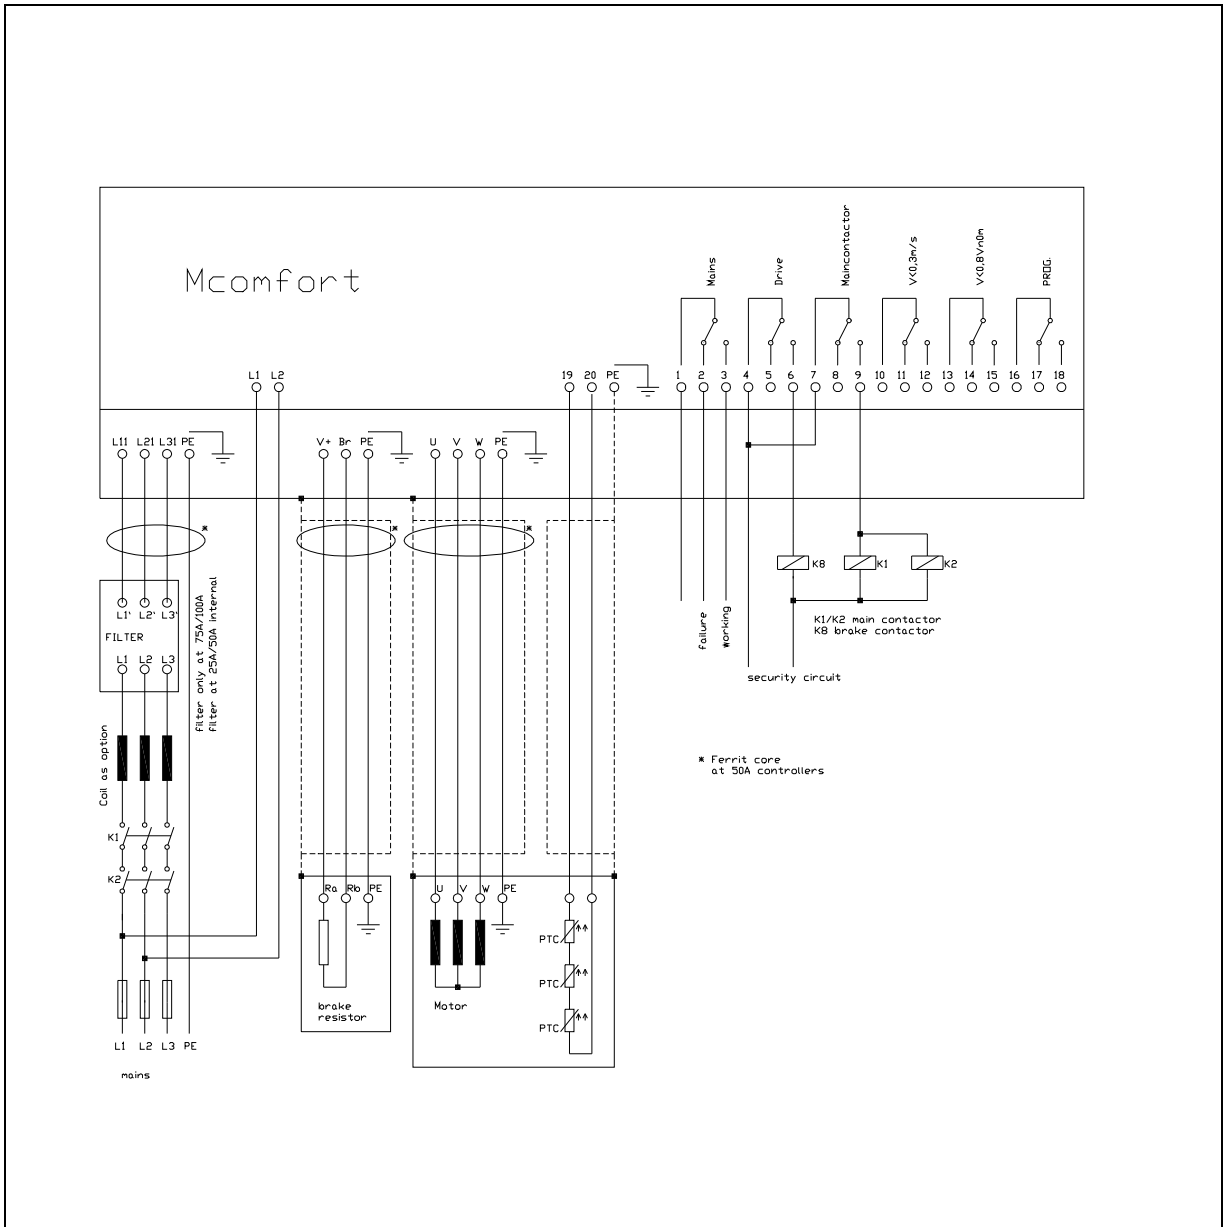

Figure 7: Circuit Diagram
For connection details, see circuit diagram Figure 7:
- **DRIVE relay:** Is activated when the command DIRECTION PRE-SELECTION + Vx (terminal 4-6) is given. It drops out when ZERO speed is reached or the direction command drops out (terminal 4-5). The DRIVE relay switches the mechanical brake (see Figure 7).
- **CONTACTOR relay:** Main contactor interlocking. The relay is activated, run speed Vx + direction command signal is given (terminals 7-9). The main contactors are switched on. The contactor relay is switched off, with 0.5 s delay upon reaching ZERO speed (terminal 7-8), see Figure 7.